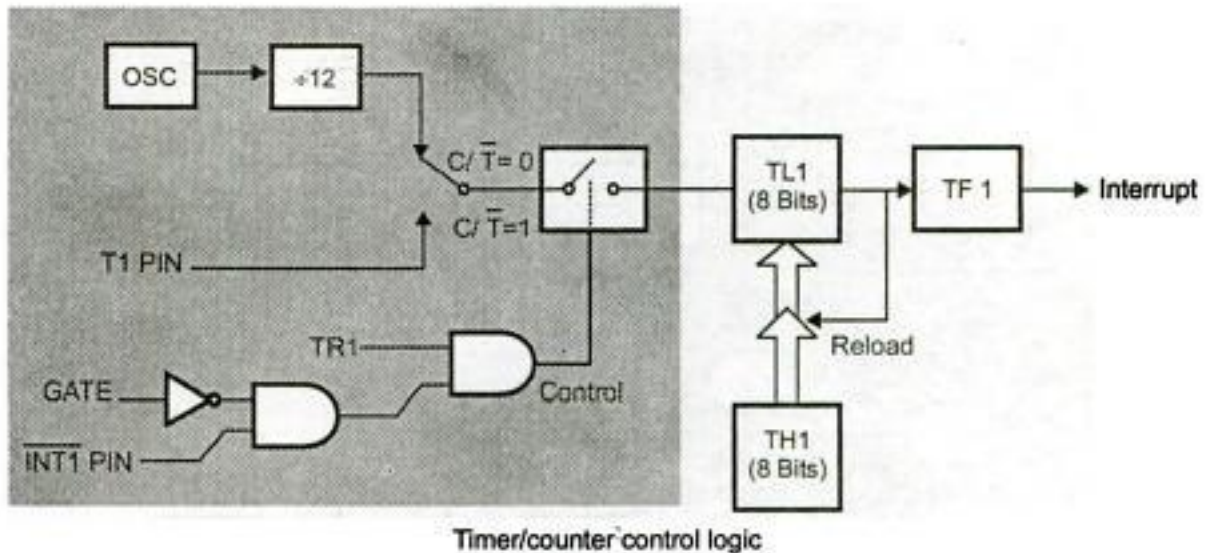

Fig. 9.5 Timer/counter 1 mode 2 : 8-bit auto reload
- **Hardware :** The timers can be started and stopped by an external hardware as long as 'GATE' bit in TMOD register is 1. In Figs. 9.5 and 9.6, the start and stop operations of the timers are done externally through pins $\overline{INT0}$ (pin 3.2) and $\overline{INT1}$ (pin 3.3) for timers 0 and 1 respectively. The timer can be started or stopped at any time externally via a simple switch.
Mode 2 configures the Timer register as an 8-bit Counter (TL1) with automatic reload, as shown in Fig. 9.5. Overflow from TL1 not only sets TF1, but also reloads TL1 with the contents of TH1, which is preset by software. The reload leaves TH1 unchanged. Mode 2 operation is the same for Timer/Counter 0.